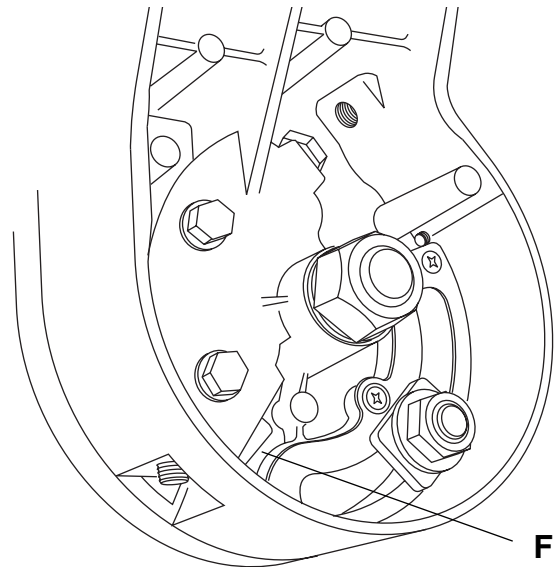

Figure 8. Calibrating Blade at 45 degrees to the table
4. Place 10 mm open-end wrench on bolt head "F" (Figure 8).